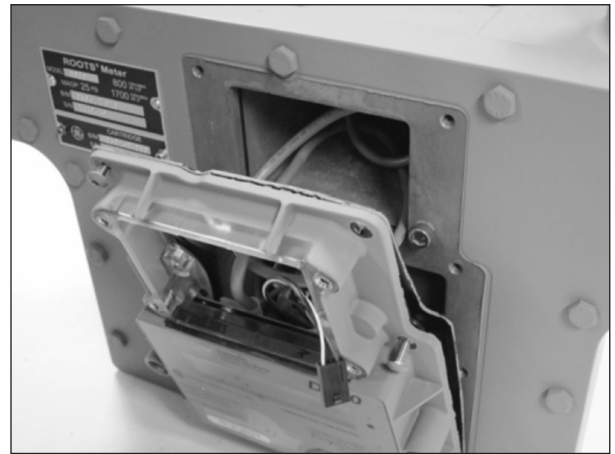

Figure 9.9 Example - Pull index away from the meter
2. Remove the nine (#10-24) screws on the Index and gently pull the index away from the meter as shown in Figure 9.9 Example.